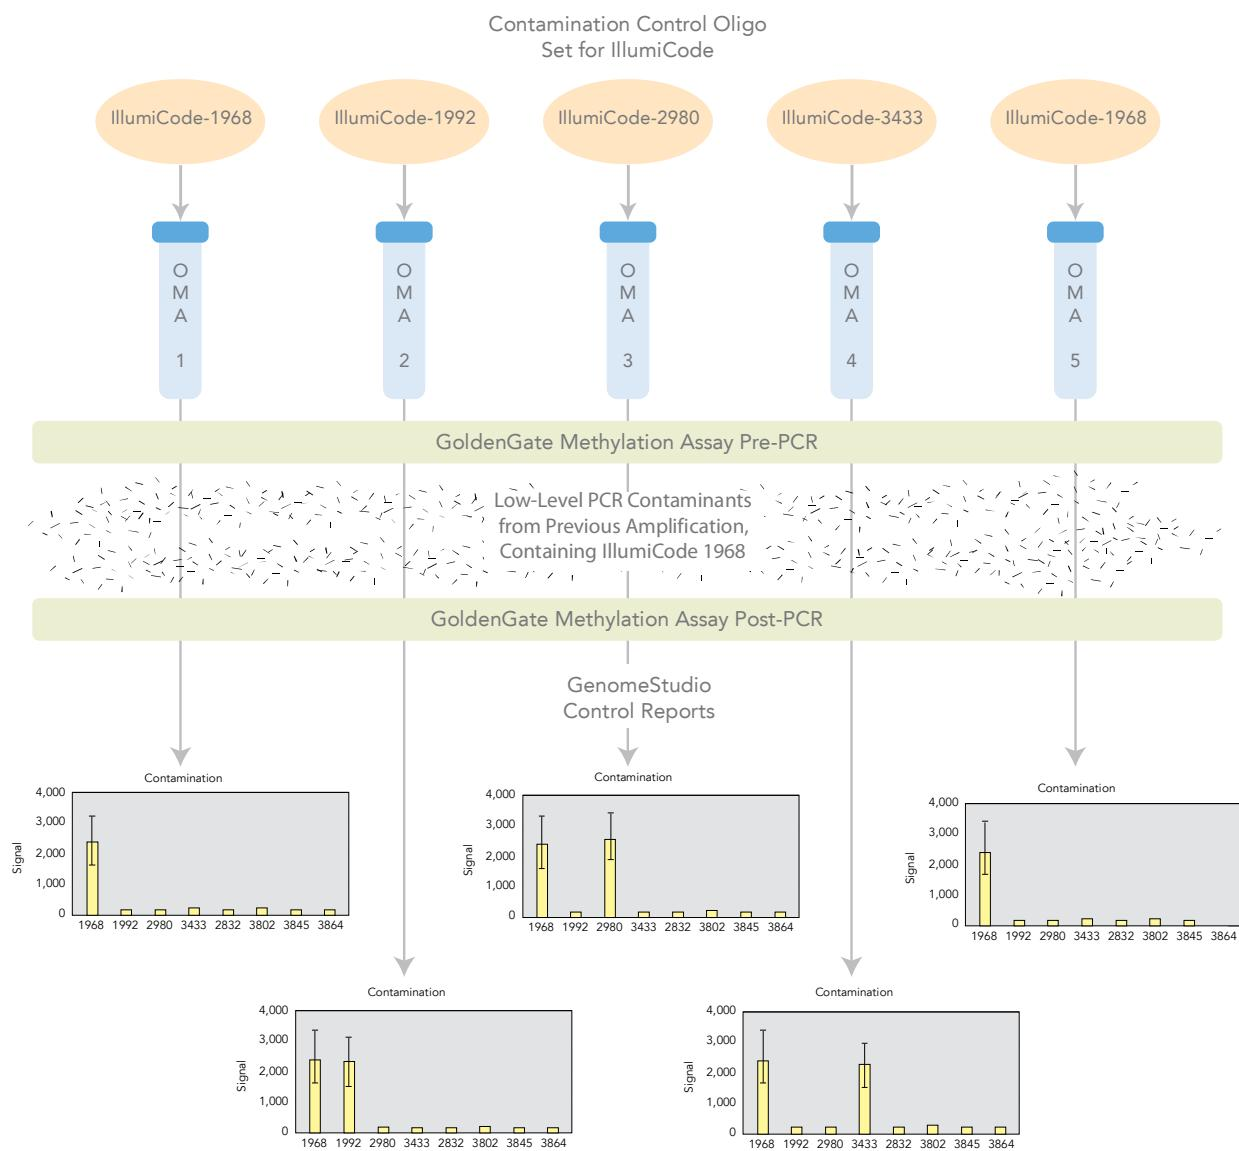

Figure 141 Contaminated Environment Without UDG Treatment
- ▶ Figure 141 represents a contaminated environment without UDG treatment.